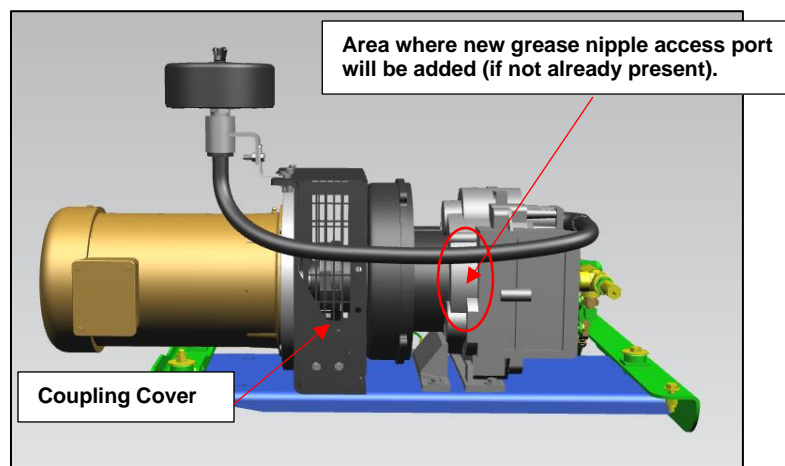

Figure 1: Air Compressor Curb Side Grease Port Position
4. Locate the area on the scroll compressor body shown in Figure 1 and wipe it free of dirt and debris.
11. Remove the coupling cover Figure 1 and turn the shaft to align the grease fitting with the newly drilled port.